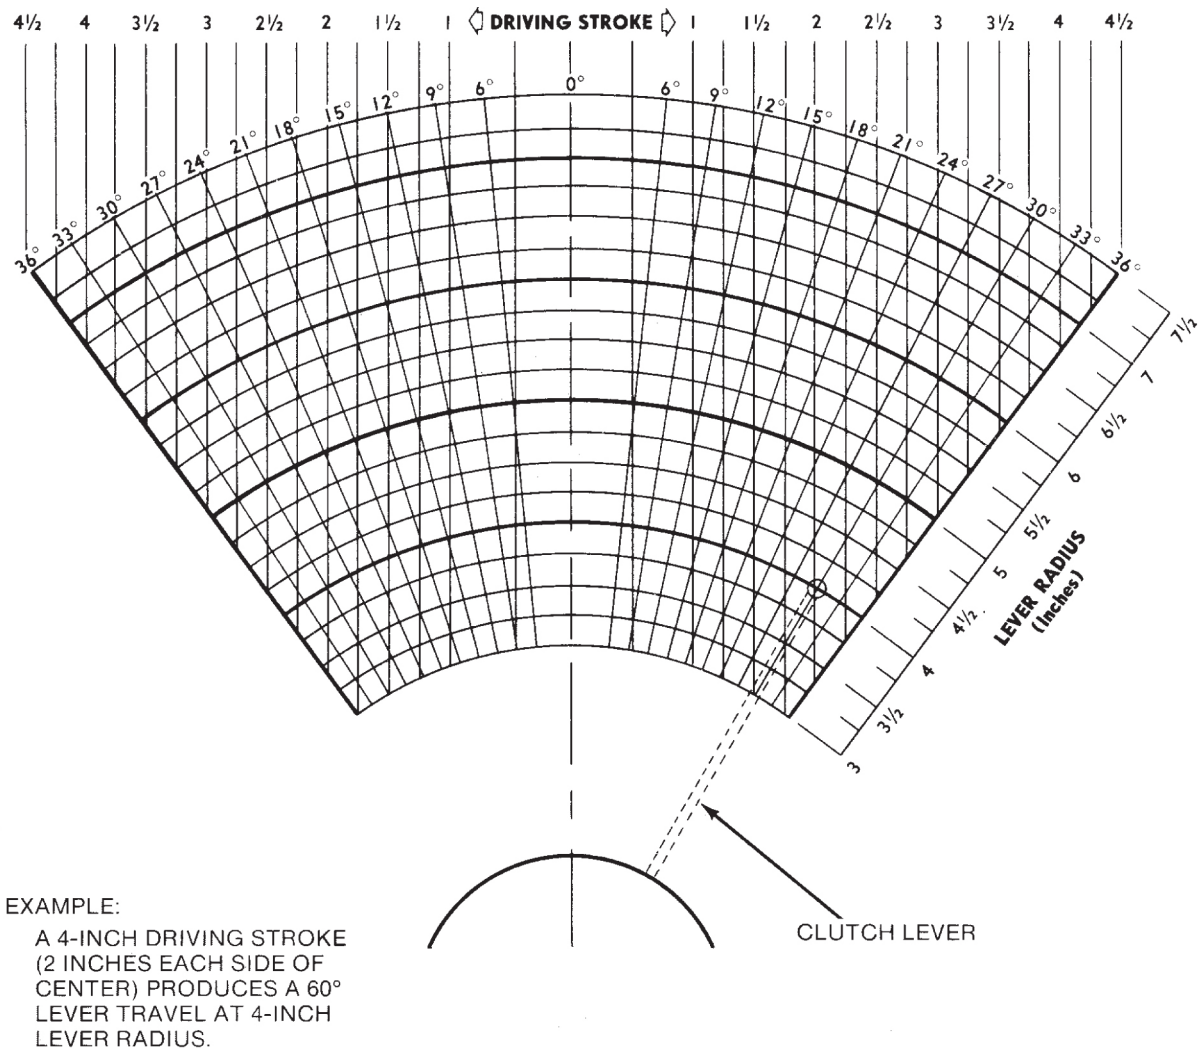

Fig. 7: Clutch Lever Diagram
Use the clutch lever diagram (FIG. 7) to determine the anticipated clutch lever throw angle.
* Degrees of Throw can be found by using clutch lever diagram (FIG. 7, page 11)